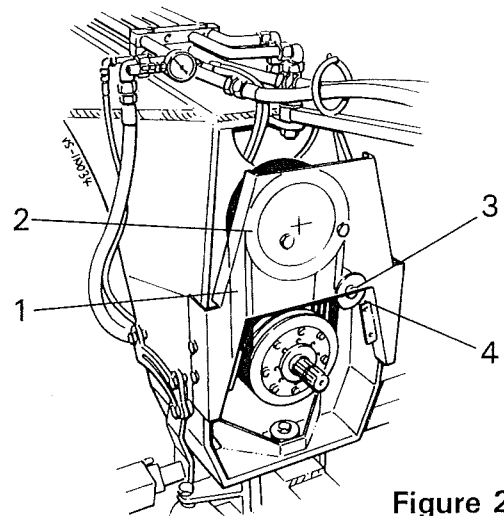

Figure 28
All power requirements for the harvester are taken hydraulically or mechanically from the tractor power take-off shaft. The PTO drive shaft is coupled to the harvester front gearbox. The four 'V'belts (*item 1, figure 28*) transmit the power up to the central drive shaft. The drive shaft is connected to the input of the centrally mounted main gearbox. From the gearbox, chain drives power the digger web and 2nd web. These are detailed in the relevant sections within this handbook.
The main drive can be fitted with an optional electro-magnetic clutch. The clutch replaces the upper 'V'belt pulley (*item 2, figure 28*) allowing the mechanical web drives to be isolated if required. The electromagnetic clutch is actuated by a button on the in-cab control box.
To adjust the V'belt tension, loosen the clamp bolt (*item 3, figure 28*) and push the tension roller (*item 4, figure 28*) against the belts using hand pressure only and retighten.